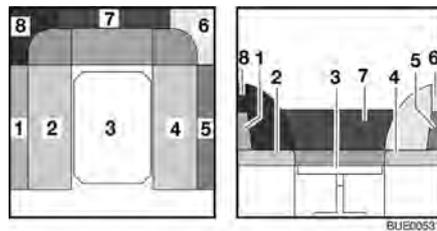

Fig. 87 During conversion
- Pull the seat cushions (Fig. 87,2 and 4) into the centre.
- Insert the back cushions (Fig. 87,1 and 5) between the seat cushions and the exterior wall
- Remove the back cushions (Fig. 87,6, 7 and 8) and lay them aside.